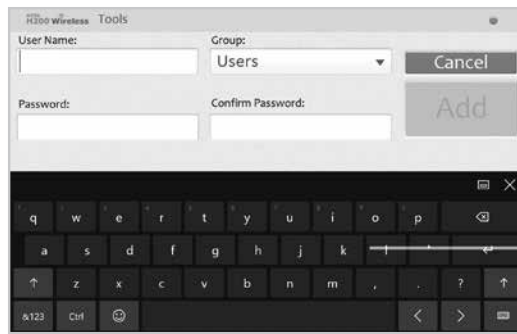

Figure 8-41: Add New User Window
2. Press New User. The Add New User window will open. See Figure 8-41.